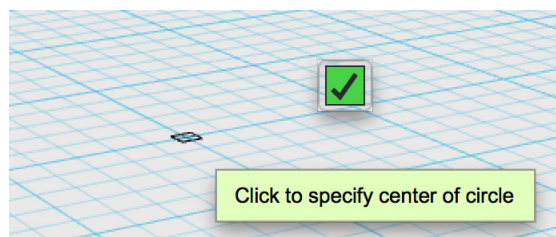

Figure 4-43 Click where center of the circle should be
2. Click on the main plane (the blue grid) where you'd like the center point of the circle to be (Figure 4-43).